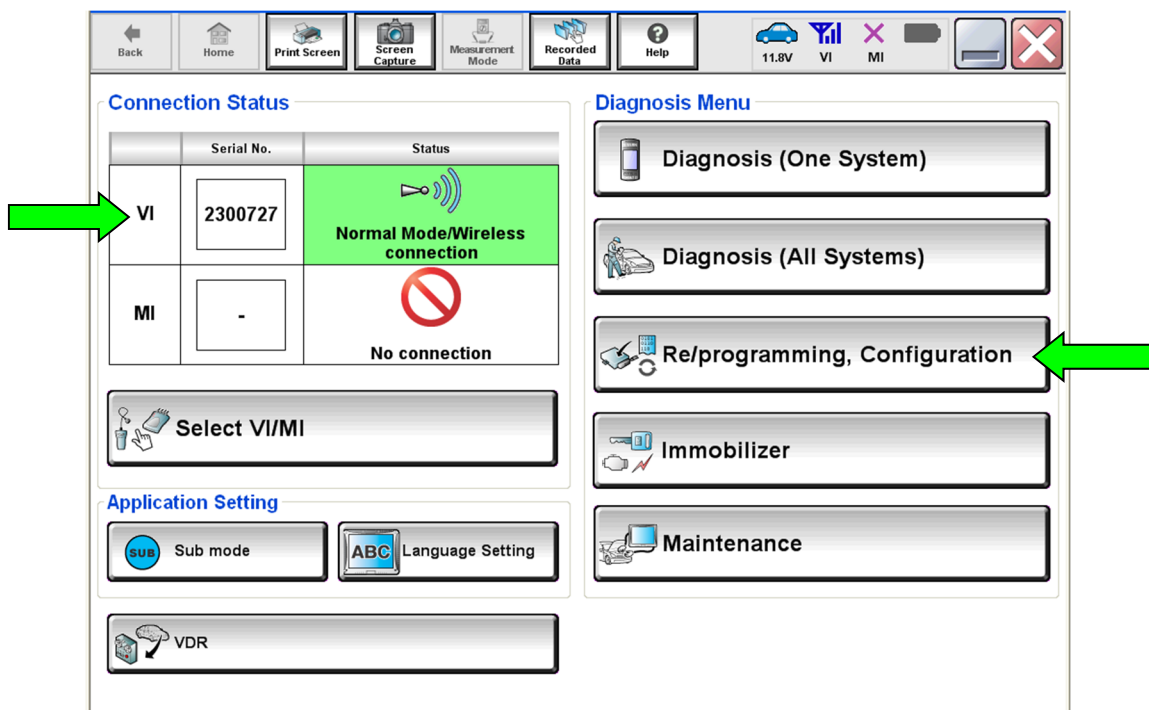

Figure 1
- The serial number will display when the VI is recognized (Figure 1).